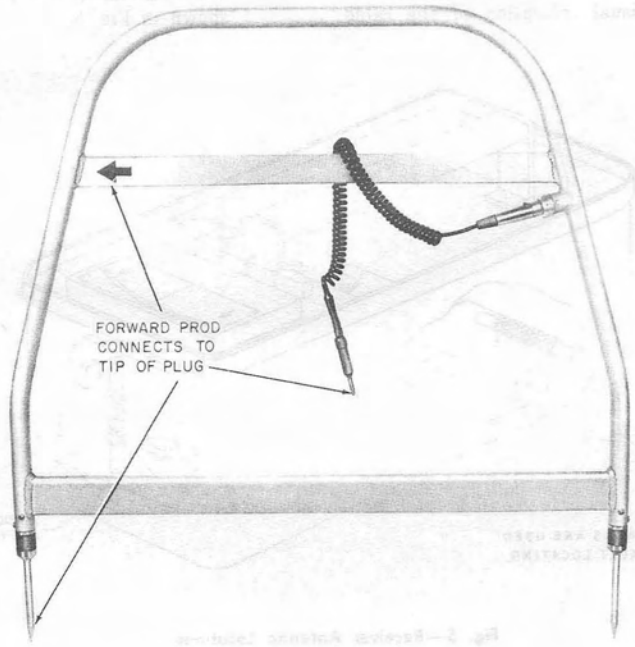

Fig. 6—AT-8681 B Ground Probe
3.06 The AT-8681 B ground probe (Fig. 6) is not part of the 173A test set. However, this
5.13 The ground probe **must** be held so the cord leading from the frame to the receiver is on the rear portion of the tubular frame (Fig. 6).